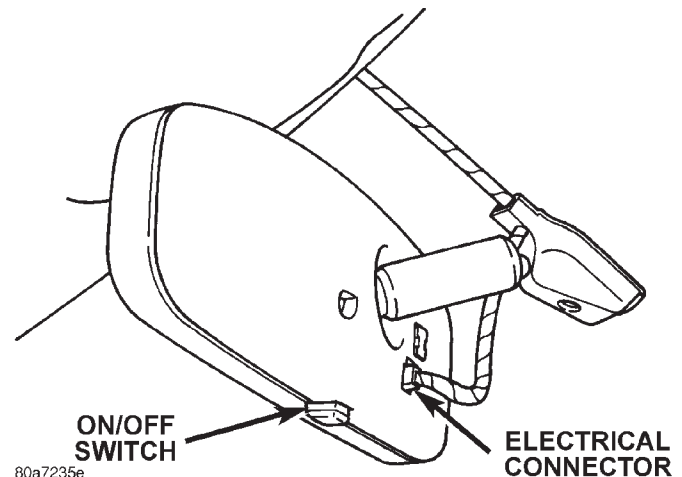

Fig. 2 Automatic Day/Night Mirror Remove/Install
(1) Disconnect and isolate the battery negative cable.
(2) Unplug the wire harness connector from the automatic day/night mirror (Fig. 2).